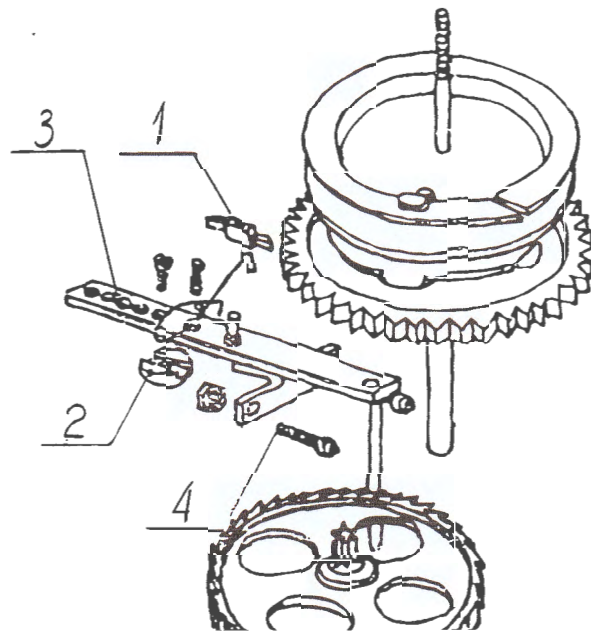

fig.11
- switch the motor off, check the operation of the ratchet mechanism (fig.11) when the wire drive is stopped (see point 2.3.4.), clean the pawl (1), its spindle and the gear wheel to make sure that no scuffing or gripping occur. Try to increase slightly the working arm of the swinging weight (2). Turn over the pawl if necessary. Set the stroke and the weight arm (3) with the feeding adjusting screws (4).